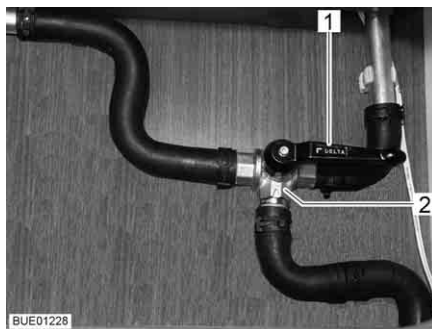

Fig. 138 3-way valve
- Set the lever (Fig. 138,1) of the 3-way valve (Fig. 138,2) parallel to the straight flow direction (Fig. 138).
- Set the lever (Fig. 138,1) of the 3-way valve (Fig. 138,2) transverse to the straight flow direction.